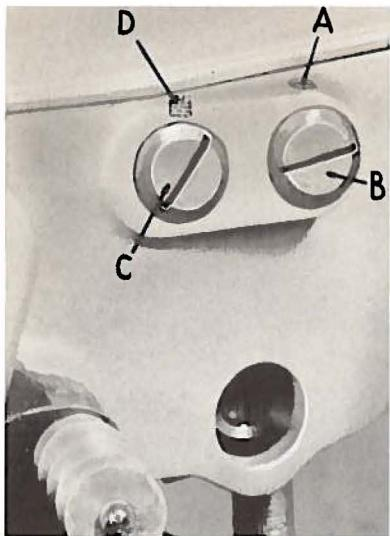

Fig. 4
Teeth of two cups must engage their full depth. Set screw (A, Fig. 4) releases stud (B), controlling cam under head of casting. Turn stud until spring pressure against stud is removed. Allow front feed cup to bear against rear cup while turning this front stud counterclockwise until a contact between the cam on the stud and the front feed cup separating lever can barely be felt. Then, turn stud clockwise  $1/8$  of a turn. Retighten set screw.
The rear stud (C, Fig. 4) is used to set the degree to which the front feed cup can be opened. (Note: The set screw (D, Fig. 4) holding the stud controlling the rear can is located under top cover just above stud.)